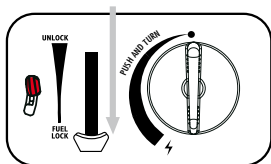

fig. 3
3. Press the cartridge lever (6) down (fig.3) and close the cartridge cover.